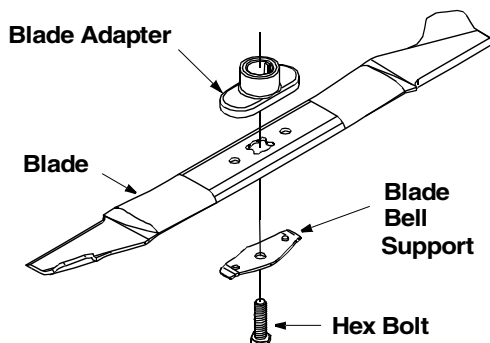

Figure 17
- Remove the bolt and blade support or bell washer which hold the blade and adapter to the engine crankshaft. See Figure 17. Remove the blade and adapter from the crankshaft.
- Install the blade adapter on the crankshaft with the “star” away from the engine. Refer to Figure 17. Place the blade with the side marked bottom (or with part number) facing away from the adapter.